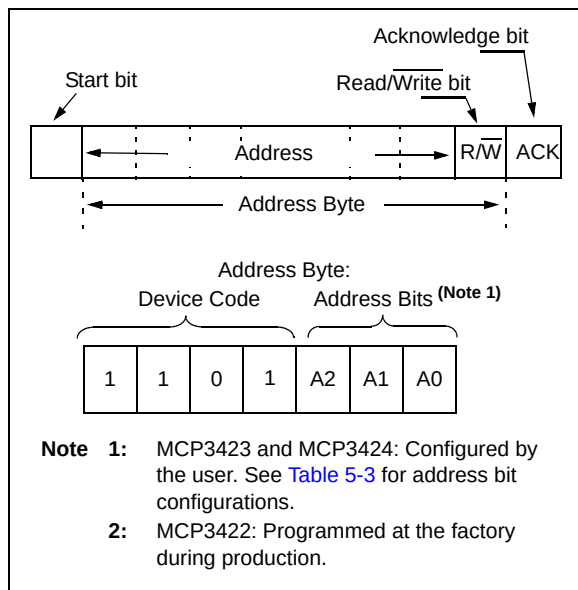
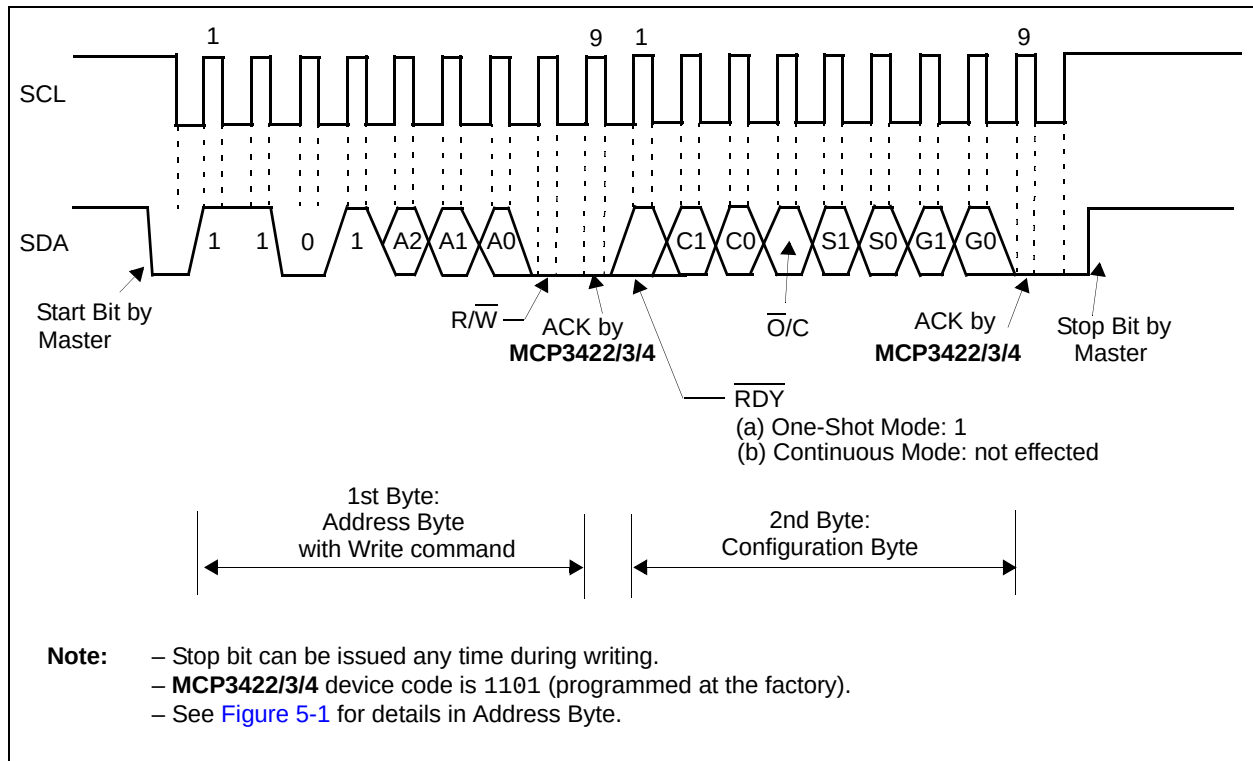
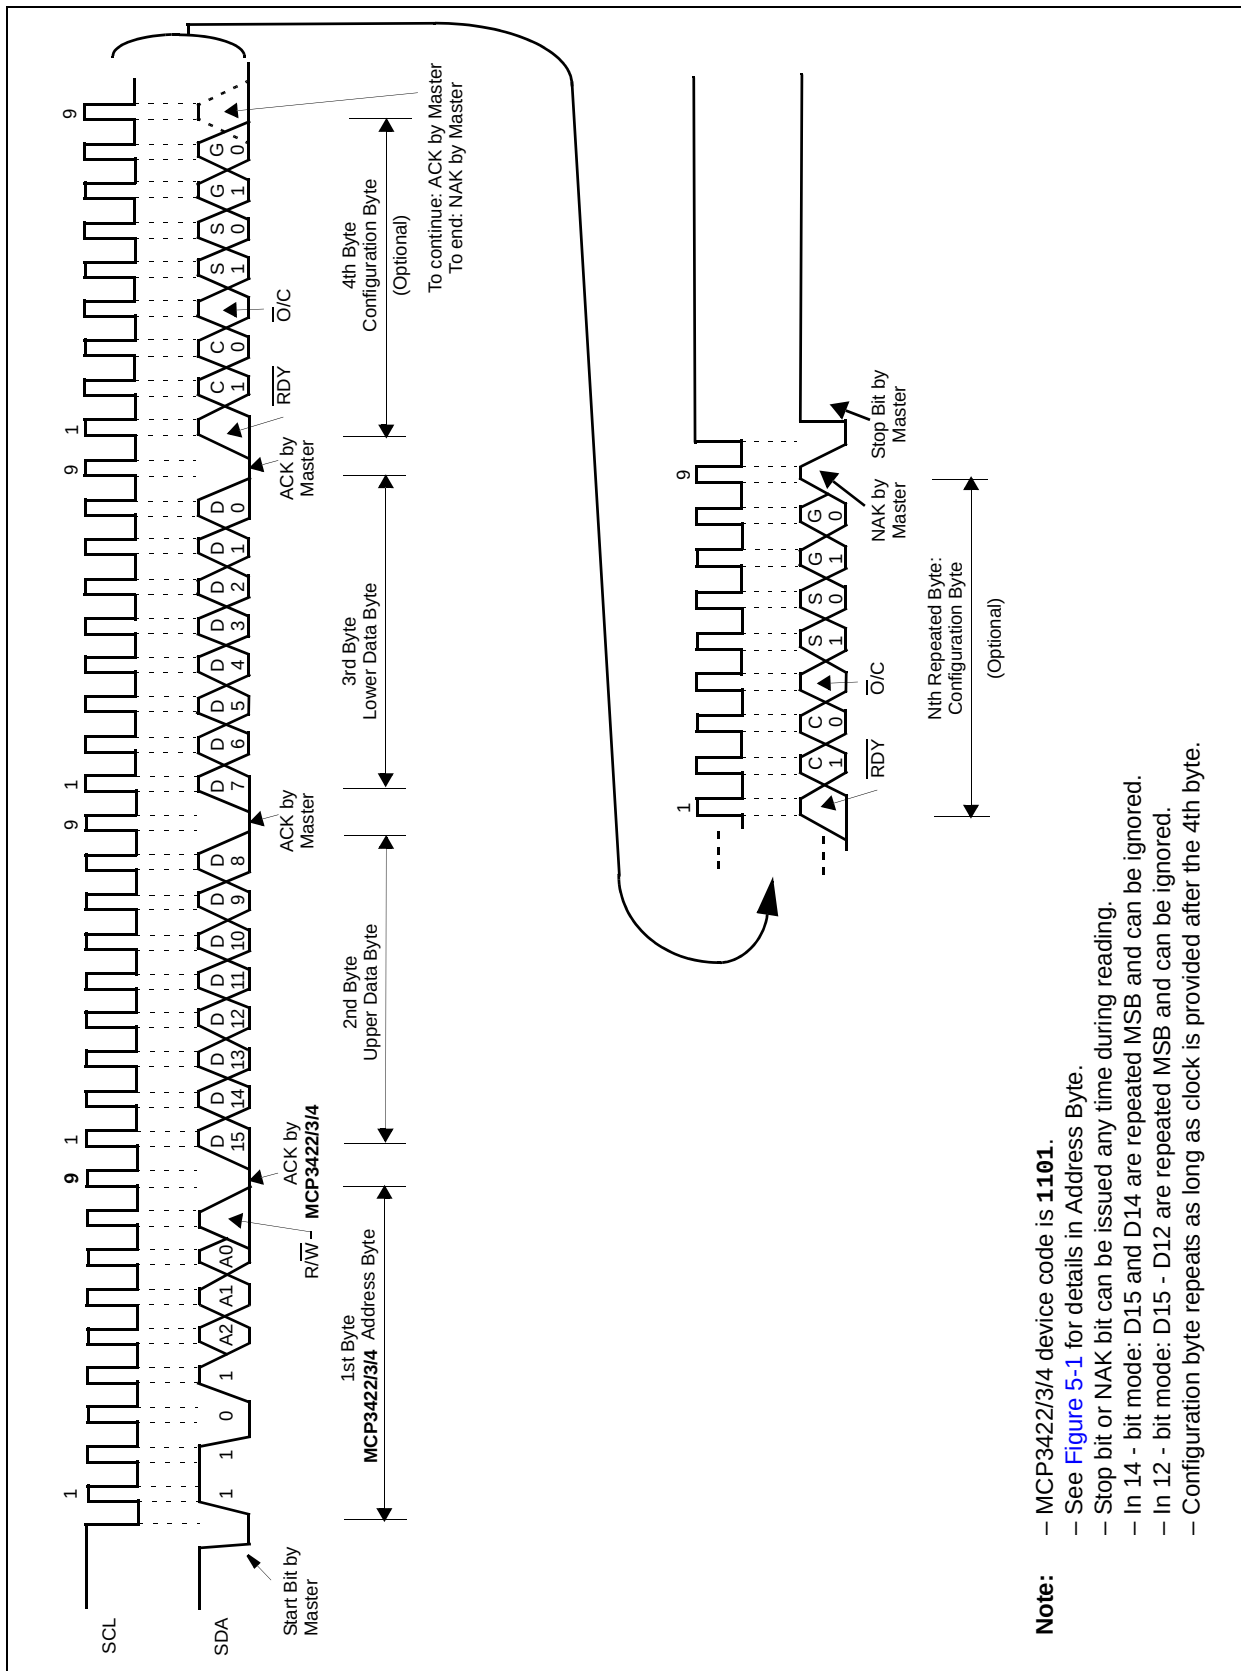

FIGURE 5-1: Address Byte.
FIGURE 5-3: Timing Diagram For Writing To The MCP3422/3/4.
FIGURE 5-5: Timing Diagram For Reading From The MCP3422/3/4 With 12-Bit to 16-Bit Modes.
Figure 5-4 and Figure 5-5 show the examples of reading the conversion data. The user can rewrite the configuration byte any time for a new setting. Table 5-1 and Table 5-2 show the examples of the configuration bit operation.
The first byte after the START bit is always the address byte of the device, which includes the device code (4 bits), address bits (3 bits), and R/W bit. The device code for the devices is **1101**, which is programmed at the factory. The I²C address bits (A2, A1, A0 bits) for the MCP3423 and MCP3424 are user configurable and determined by the logic status of the two external address selection pins on the user's application board (Adr0 and Adr1 pins). The Master must know the Adr0 and Adr1 pin conditions before sending read or write command. Figure 5-1 shows the details of the address byte.
Figure 5-1 shows the address byte. Figure 5-3 through Figure 5-5 show how to write the configuration register bits and read the conversion results.
- See Figure 5-1 for details in Address Byte.